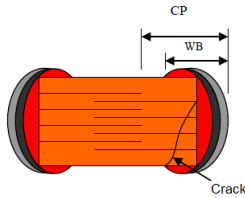

Fig.2 Open-mode design (CP>WB) circuit open during cracking.
- This type of capacitor adopts special inner electrode designs as fig.2 and fig.3 below